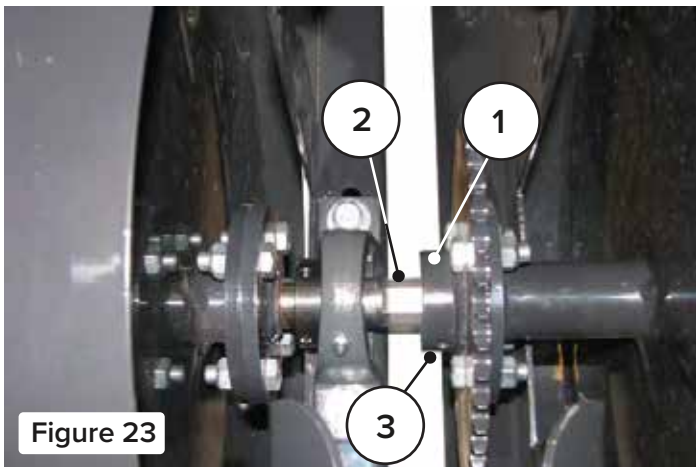

Figure 23
20. Slide the sprocket hub (Item 1) onto the adapter shaft (Item 2). [Figure 23]
24. Tighten the sprocket hub set screws (Item 3). [Figure 23]